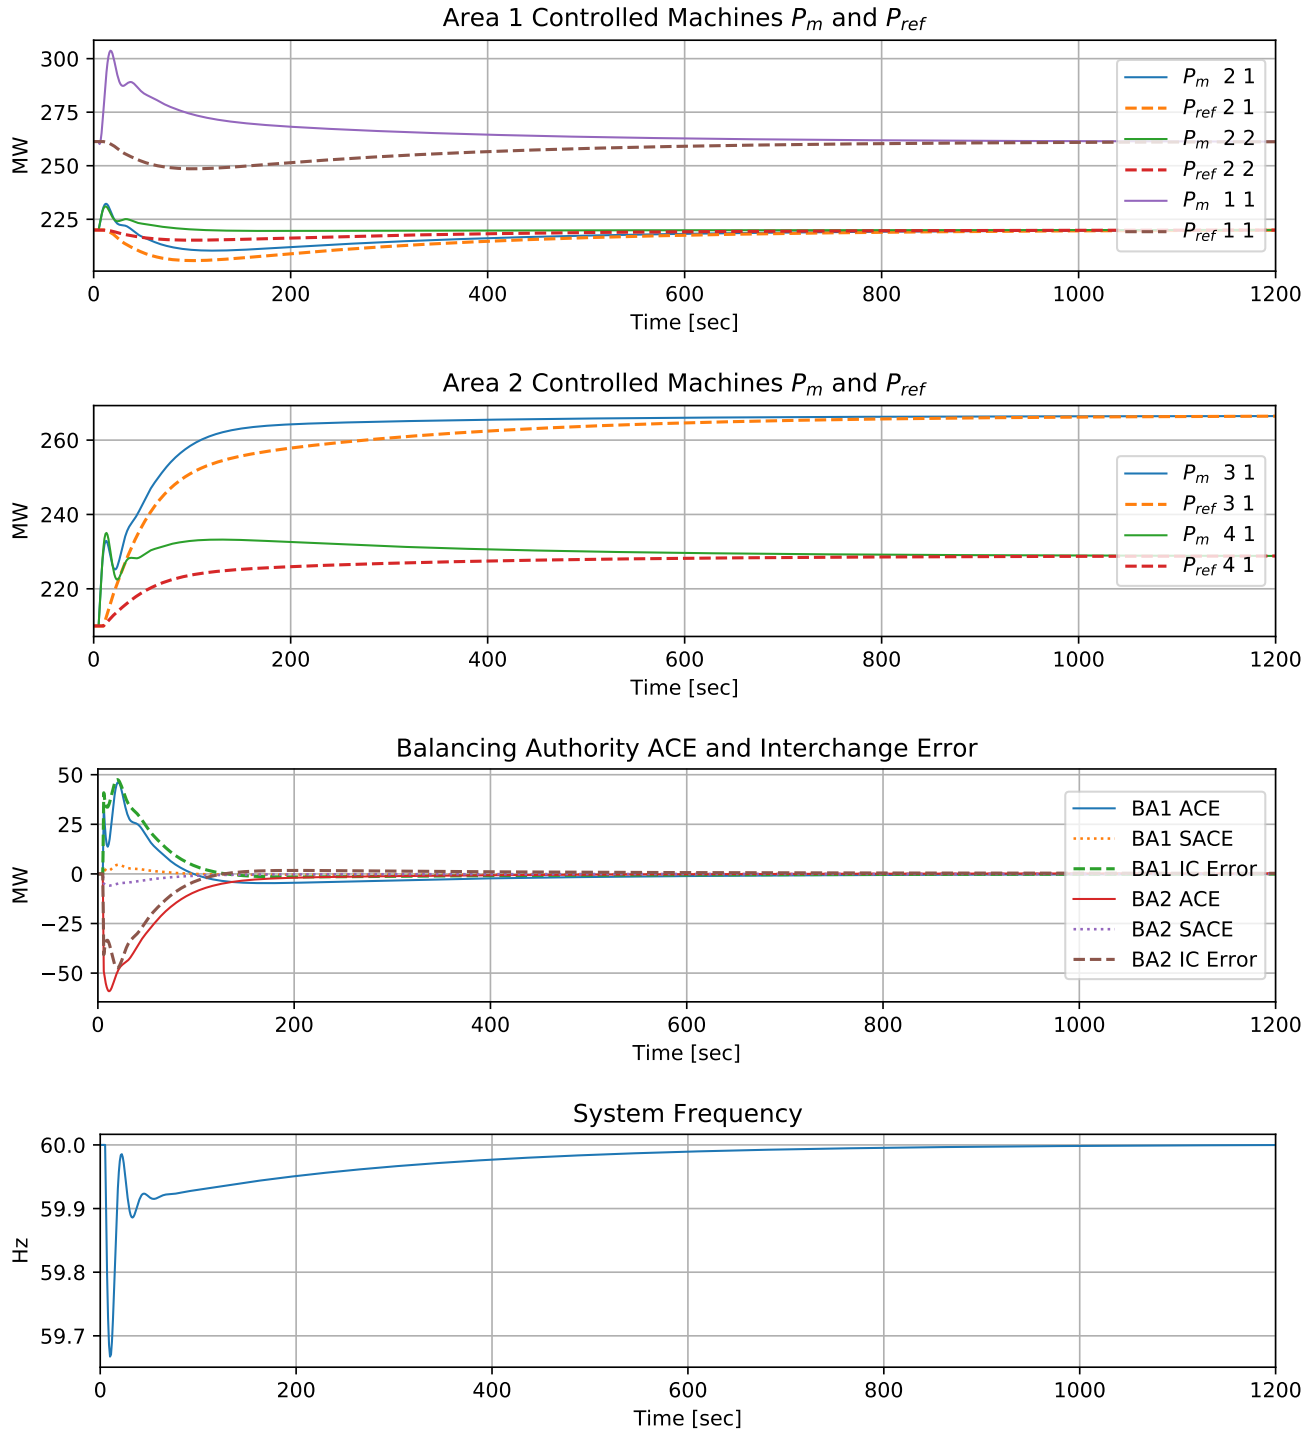

Figure 2: Relevant Balancing Authority Simulation Data Using Ramps and PI Filtering.
**Ramp PI ACE Results:** Changing the ACE distribution to ramps and using a PI controller to filter ACE with a proportional gain of 0.1 and integral gain of 10E-6 produces the responses shown in Figure 2. The filtered, or *smoothed*, ACE (SACE) is distributed to controlled machines according to their participation factor. The 20 minute simulation uses a 1 second time step.